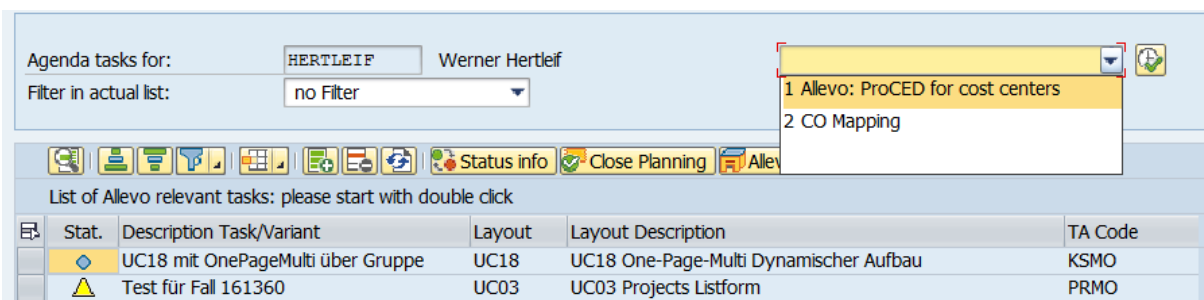

Figure 3.10: Two-level planning agenda with text items
- Alternatively, you can call up any transaction via a selection list at the top of the screen (see Figure 3.10). These entries are set up via transaction /ALLEVO/COCKPIT_IDL, or optionally called via the Cockpit. The list stored there is also evaluated in the Cockpit itself: accordingly, for each transaction, a classification is made for the type of call (Cockpit, Agenda or both). A transaction